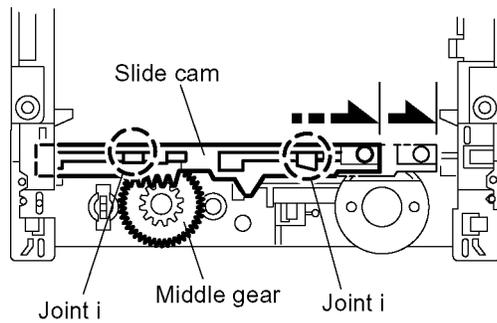

Fig.10
2.1.6 How to remove a surround audio board (See Figure 10)